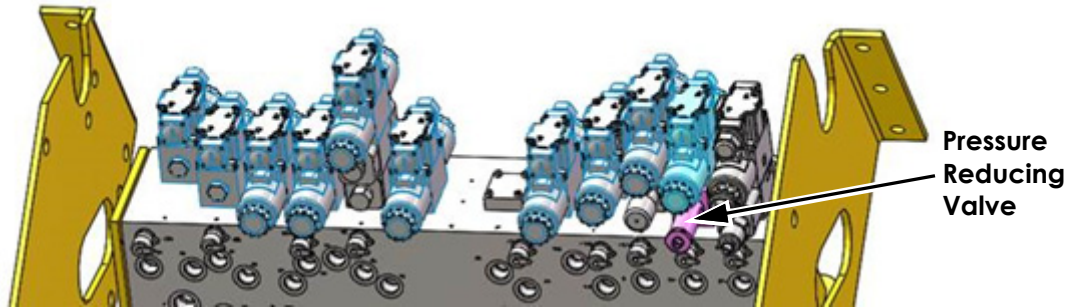

Figure 5: Pressure reducing valve
2. Unscrew the fasteners to remove the pressure reducing valve (PRV) as shown in Figure 5. If the check valve is not available then install the BUW valve bank using the socket head fasteners (Carrig P/N: SH-10-24-0200).